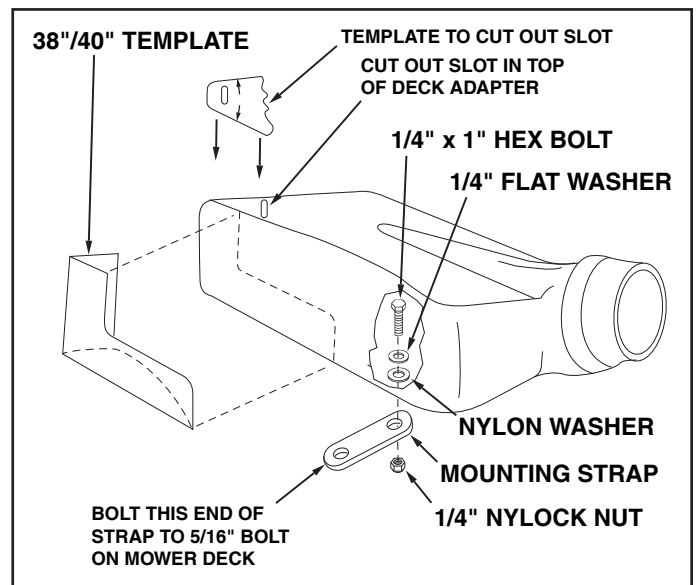

FIGURE 34
- Cut out two templates and place on deck adapter as shown in figure 34. Tape smaller one on top and larger one on the side and bottom. After they are in place, carefully mark around the templates, then cut out adapter to obtain correct opening.
- Bolt end of mounting strap to the 5/16" bolt on the mower deck. The other end of the strap will bolt to a hole in the deck adapter, which must be drilled. Position the adapter on the deck, then drill a 5/16" hole in the bottom of the adapter that will align with the hole in the strap. Fasten the adapter to the strap using one 1/4" x 1" hex bolt, 1/4" flat washer, nylon washer and 1/4" nylock nut. See figure 34.